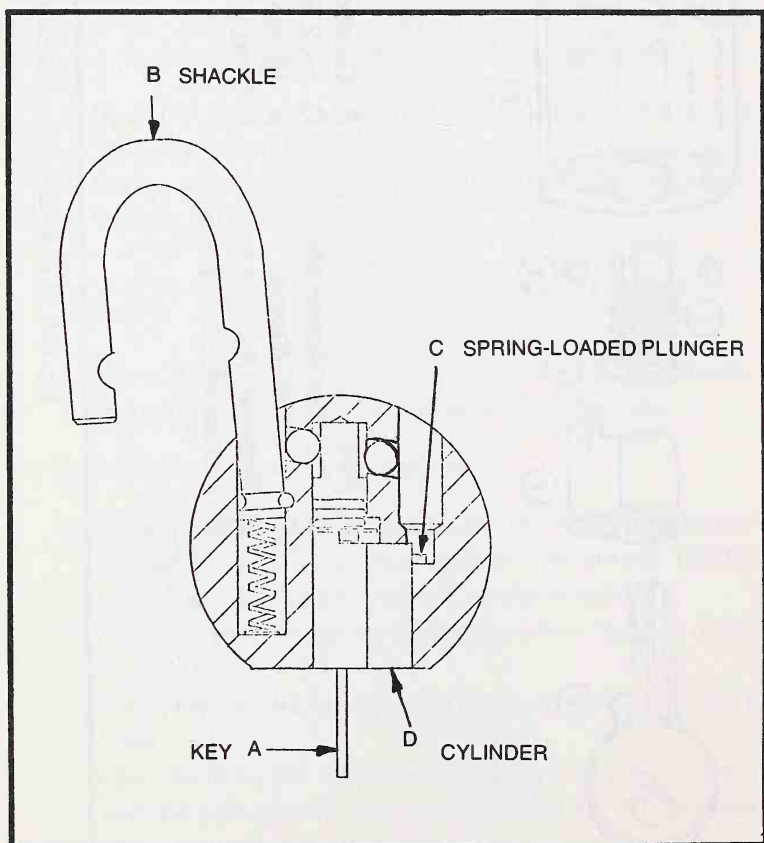

Fig. 17-7. The American 600 series padlock.
1. Unlock the padlock and turn the shackle as shown in Fig. 17-7.
2. Depress the spring-loaded plunger (C) with small screwdriver until the plunger is flush with the wall of the shackle hole. At the same time, pull on the key; withdraw the cylinder.